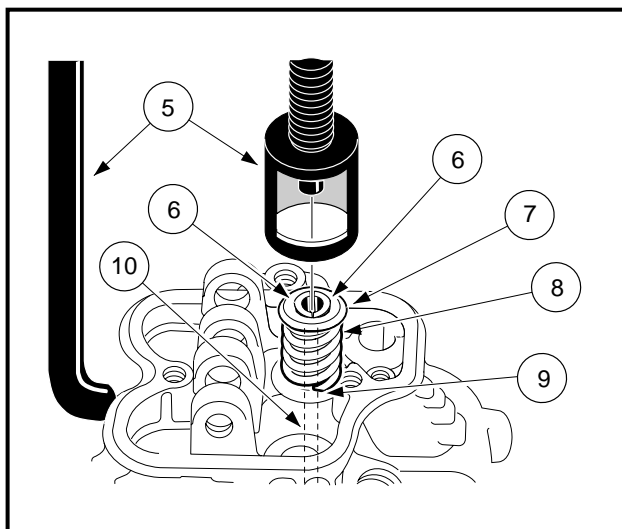
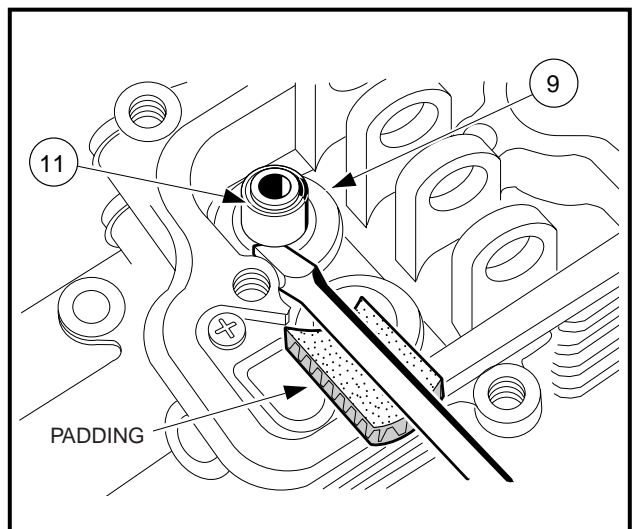

Figure 13-14 Valve Removal
Figure 13-15 Spring Seat Removal
1. Compress the valve spring with the valve spring compressor (5) (CCI 101641101) and remove the col-let halves (6) (**Figure 13-14, Page 13-11**).
2. Remove spring compressor, and take out the upper retainer (7) and the spring (8).
3. Remove valve (10).
4. Remove valve stem seal (11) with a screwdriver (**Figure 13-15, Page 13-11**). See following **CAUTION**.
- To keep the screwdriver from damaging the cylinder head flange surface, place a piece of heavy cardboard or wood between them (**Figure 13-15, Page 13-11**).
5. Remove spring seat (9) (**Figure 13-15, Page 13-11**).